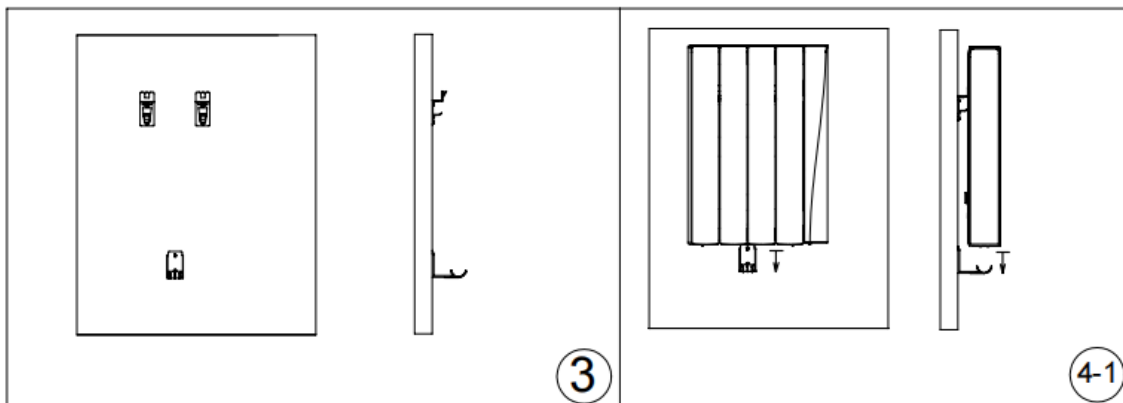

Figure 4 | Mounting radiator on wall
3. Lift up the unit and slide the struts of the upper brackets into the grooves. Then lower the unit so it locks into the lower bracket, as shown in Figure 4.